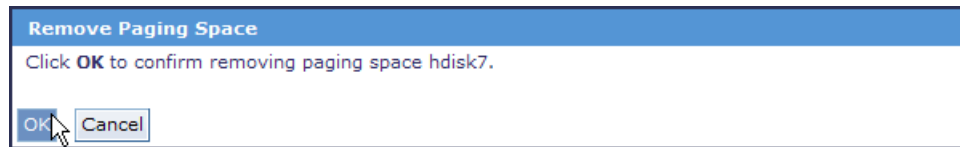

Figure 4-34 *Paging space device removal confirmation*
3. A confirmation window is displayed, as shown in Figure 4-34. Click **Ok** to confirm.